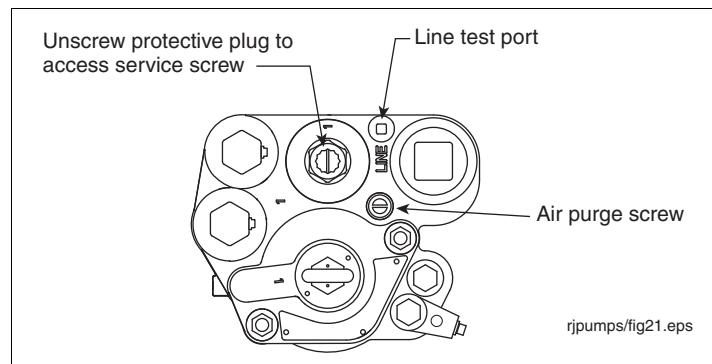

Figure 37. Service Screw, Line Test Port And Air Purge Screw Locations
3. Remove line test port plug (see Figure 37). Apply line test pressure at line test port (50 psi [345 kPa] maximum).
6. Turn the air purge screw 2 - 3 turns counterclockwise (see Figure 37).
- Remove and retain the protective plug over service screw and turn the screw clockwise (see Figure 37). As the screw approaches its bottom position, you will hear the system depressurizing. Continue turning the screw until it can go no further.
- Turn the air purge screw 2 - 3 turns counterclockwise (see Figure 37).